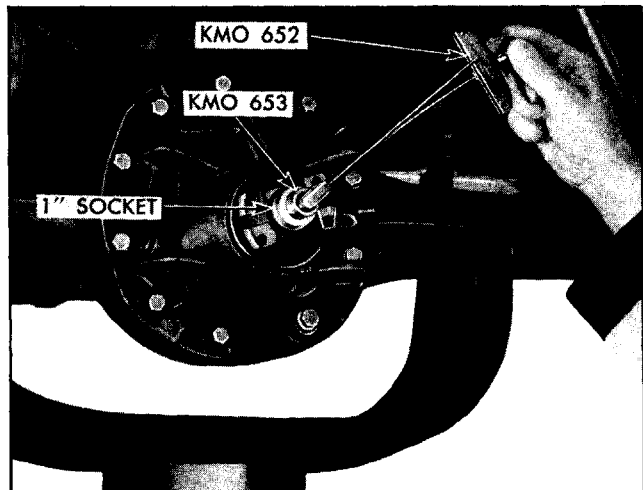

Fig. 4-4 Checking Pinion Bearing Preload With Torque Wrench KMO 652
3. Using inch-pound Torque Wrench KMO-652 with Adapter KMO-653 and socket placed over drive pinion nut, turn pinion two or three revolutions to ensure free movement, and then take a torque reading while rotating pinion to measure bearing preload (Fig. 4-4). Record reading. NOTE: Additional clearance to check preload can be obtained between differential and body by raising body a few inches by means of a jack or stand placed under frame rear cross member.